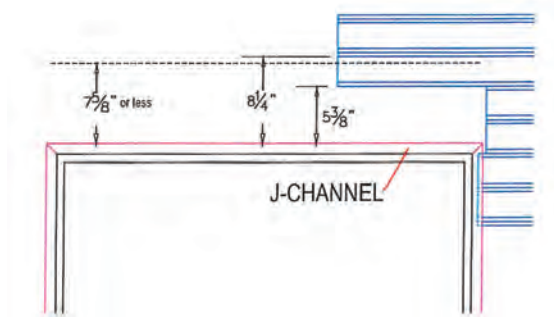

Figure 43
- Tru-Brix Tiles are $7\frac{1}{8}$ " long. You will need to measure the distance from the top of the window frame to the apparent top of a horizontal rail position, that is less than $7\frac{1}{8}$ ". See Figure 43.